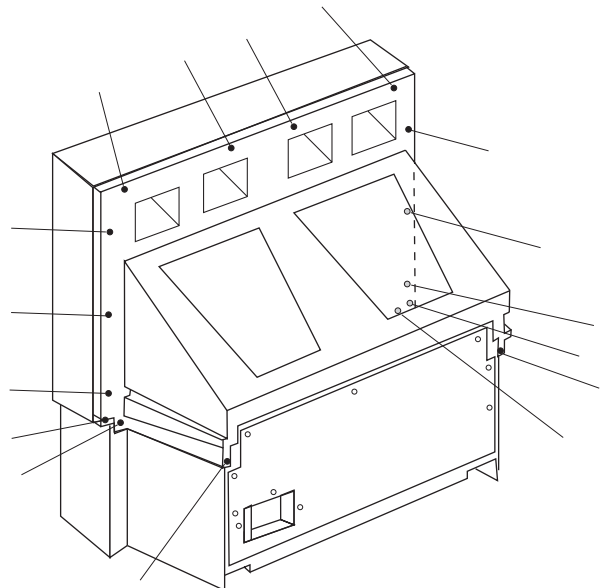

Figure 10. **Cabinet Back Cover Removal**
(Figure 10)
2. The top back cover is secured with (16) screws around its perimeter (See Figure 10 for screws location).